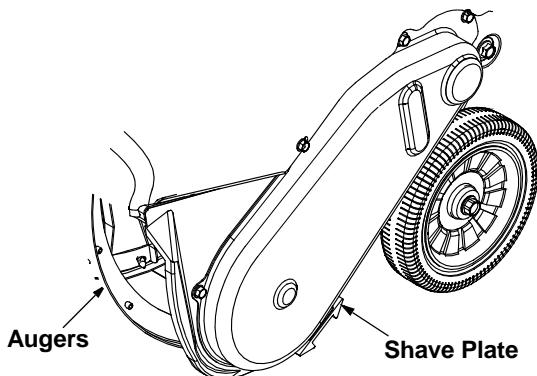

Figure 6
- To check the adjustment of the shave plate, place the unit on a level surface. See Figure 6. The wheels, shave plate and augers should all contact level surface. Note that if the shave plate is adjusted too high, snow may blow under the housing. If the shave plate wears out excessively, or the unit does not self-propel, the shave plate may be too low and needs to be adjusted.
The shave plate is attached to the bottom of the auger housing and is subject to wear. It should be checked periodically. There are two wearing edges and the shave plate can be reversed. Refer to Figure 6. To replace or reverse the shave plate proceed as follows: